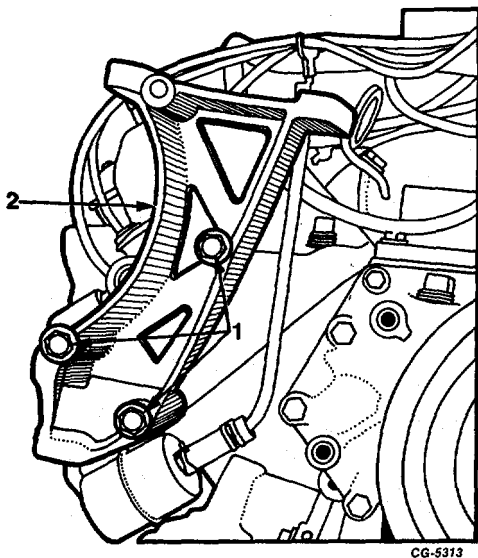

Fig. 20 Freon Compressor Bracket Removal
16. Remove freon compressor bracket, Figure 20.